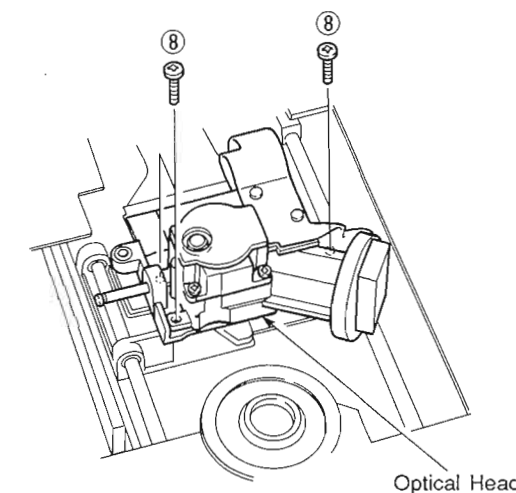

Fig. 5
- Remove 3 screws (⑧) in Fig. 5, and then remove the optical head.
- ⑧のネジ3本をはずし、光ヘッドをはずす。(Fig. 5)